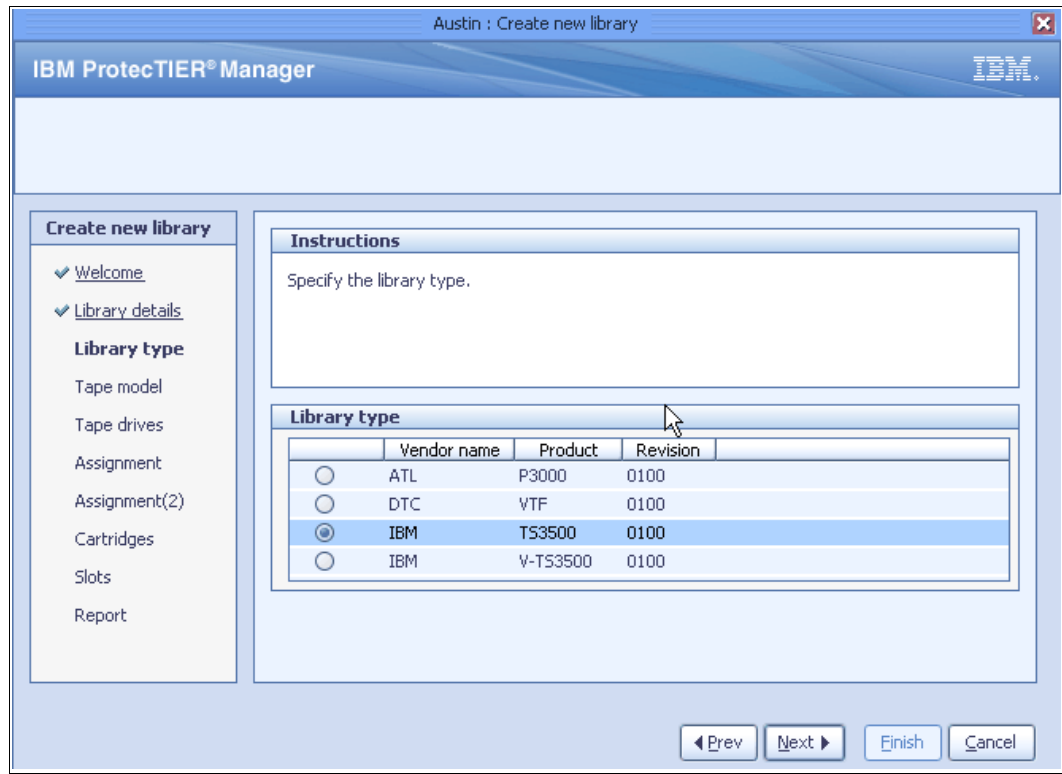

Figure 5-69 Create library details window
5. Click **Next**. In the Library details pane, specify the type of library that you want to use for your application (Figure 5-69).